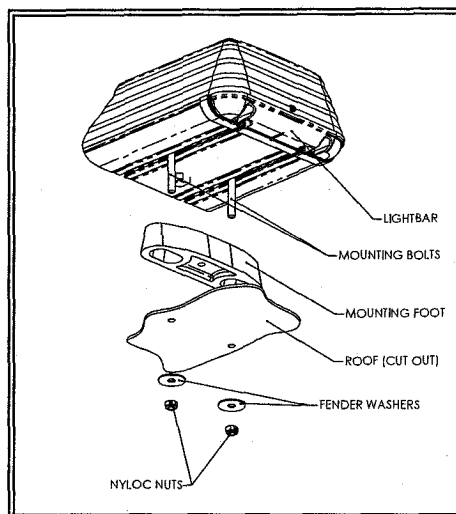

Figure 2
7. Mount the light bar with the bolts through the holes drilled in step 5 above, and secure with the Fender washer and Nyloc nut as shown in Figure 2.